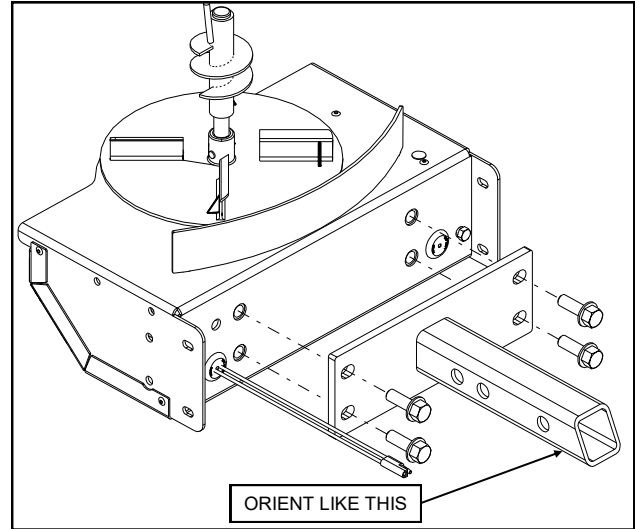

Fig 1.1
- 1.1 Place the drive assembly on a flat level surface. Attach the receiver mount to the drive assembly as shown in figure 1.1 using four 1/2" x 1-1/2" cap screws. Tighten the fasteners according to torque chart.